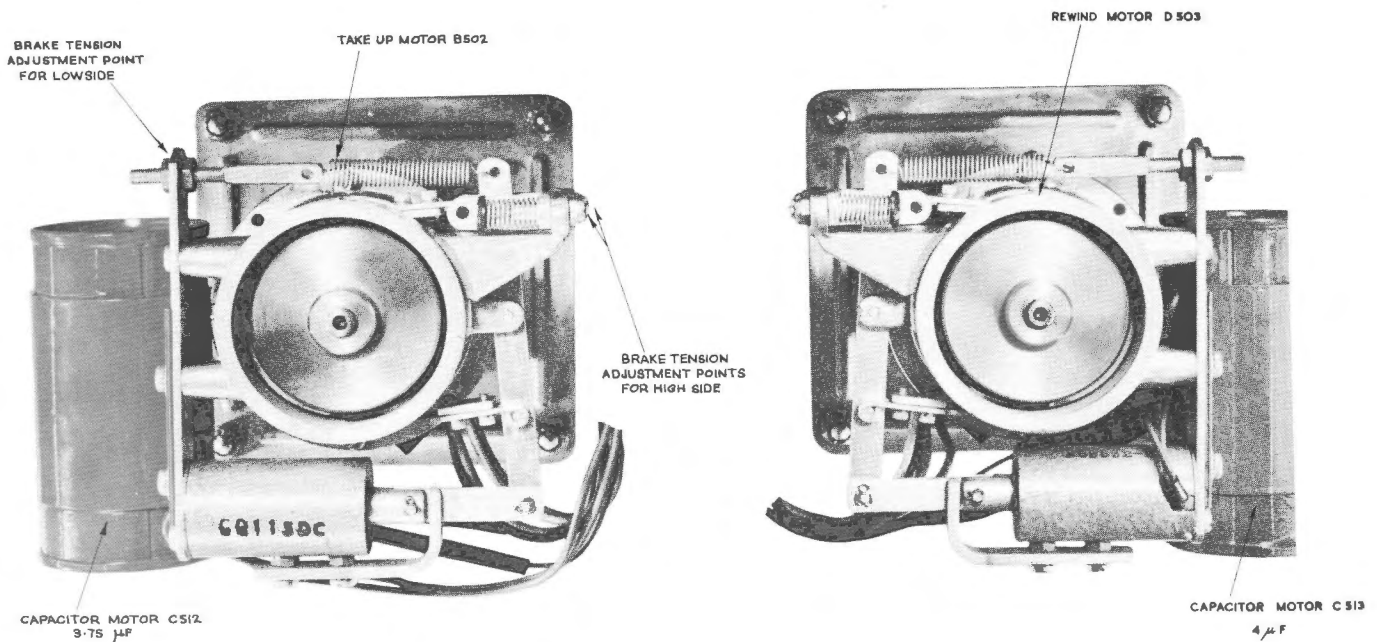

figure 5-5 — Take-up and Rewind Motor Assemblies
Brake adjustment is made (with no power applied to the equipment) at the point shown in figure 5-5.
Step 6: Adjust the supply and take-up motors' brakes for scale readings listed below. Points of adjustment are shown by illustration in figure 5-5.